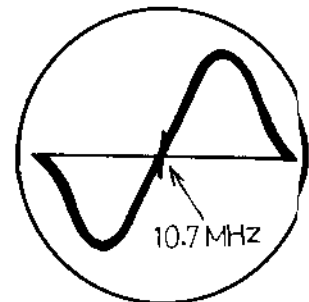

Fig. 10
- b. Align the L17 & 18 so that the response of the "S" curve will become maximum and symmetric, and the V.T.V.M. will show the zero point. (Refer to Fig. 10)